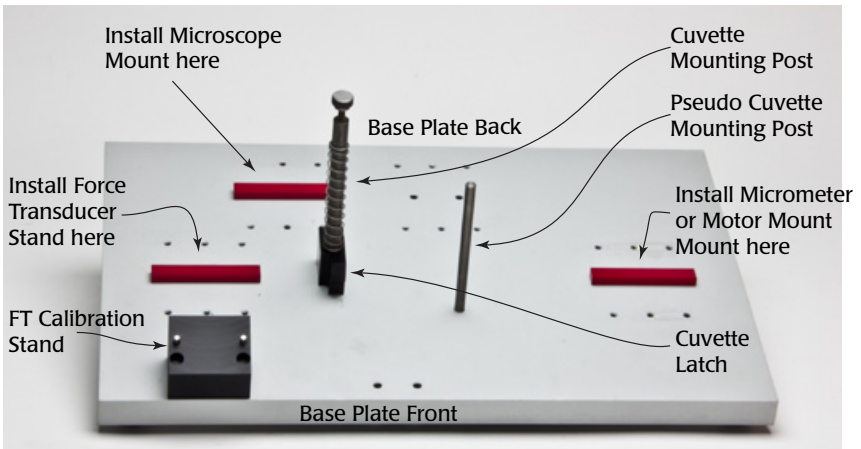
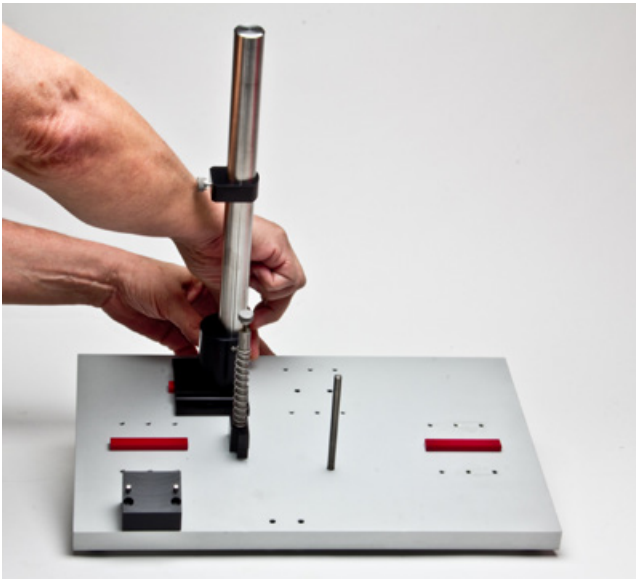

Fig. 2— Microscope mast and base plate assembly
Fig. 3—Microscope mast installed
1. Position the base of the microscope mast so that the mounting slots on the mast align with the screw holes on the back side of the base plate (**Fig. 2**). Choose four holes and insert four screws through the slots on the base of the microscope mast and into the screw holes. (Start with the four middle holes and center the microscope mast over them. The position of the microscope is flexible, depending on the screw holes you choose and how you position the mast. Tighten the thumb screws (**Fig. 3**) to secure the mast in place.